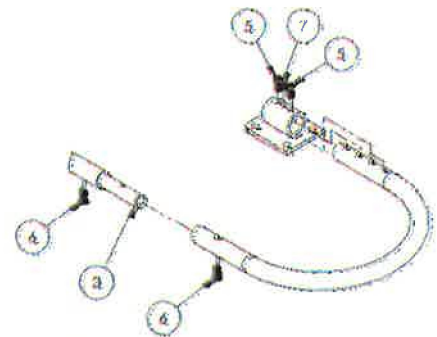

Figure 2 Rod Hardware
- 4) Connect the ejection curtain mounting brackets (Item No. 1) to the ejection curtain rod using hardware provided (Figure 2. Item No. 5,7).